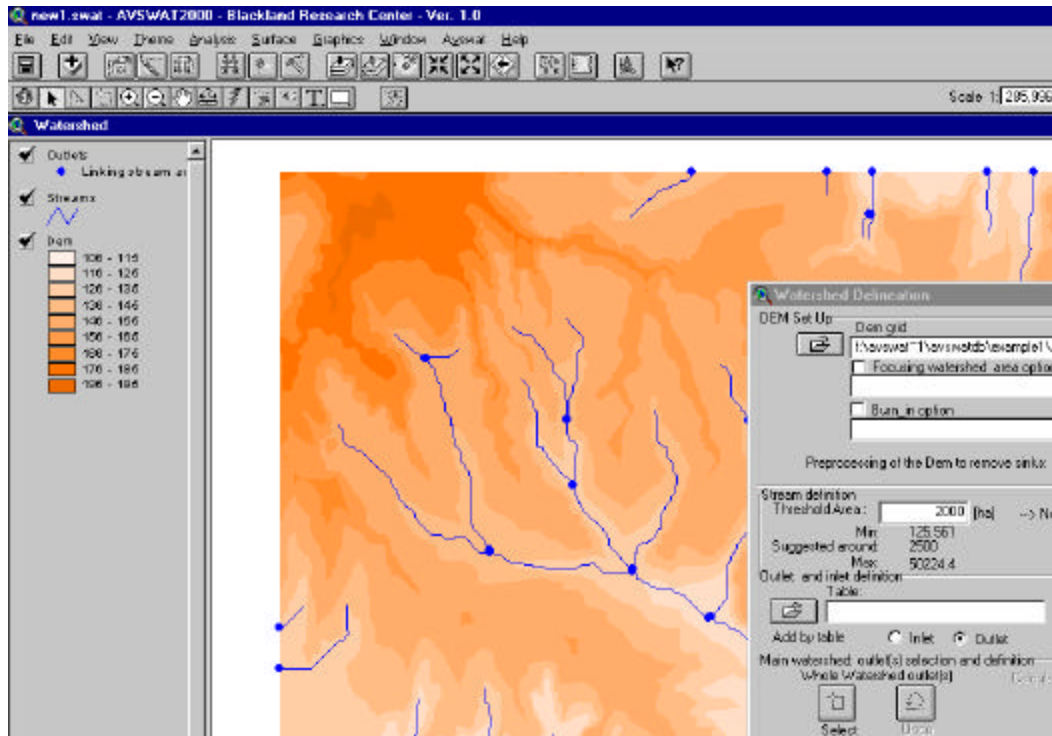

Figure 5.31
3. Two themes are now added to the Watershed View and displayed over the DEM map grid: Streams (the current synthetic drainage network) and Outlets (the respective stream junction points) (Figure 5.31).